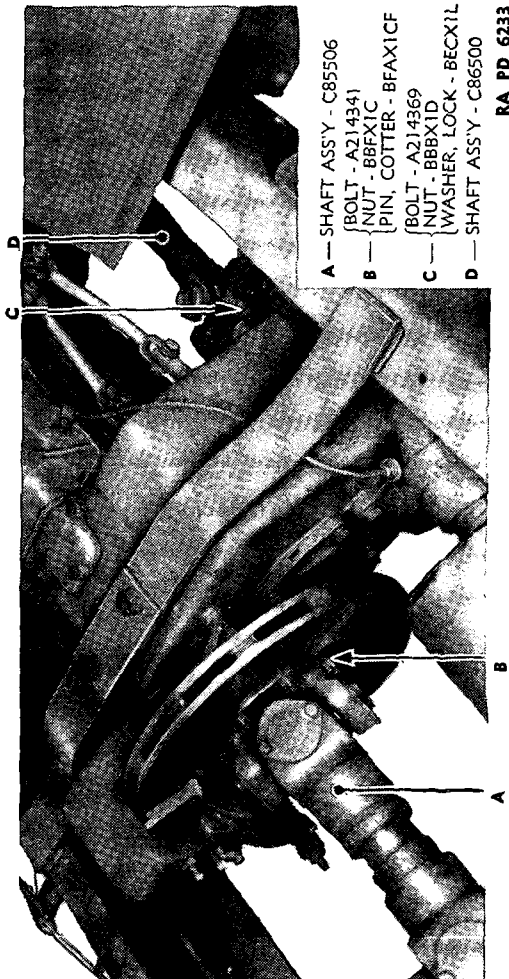

FIGURE 70.—Propeller shafts, installed.
(3) Replace with new seals.
**27. Removal of assembly** (fig. 70).—*a. Front axle propeller shaft.*—Tools: ⅝-inch open end wrench, ⅝-inch socket wrench. Re-